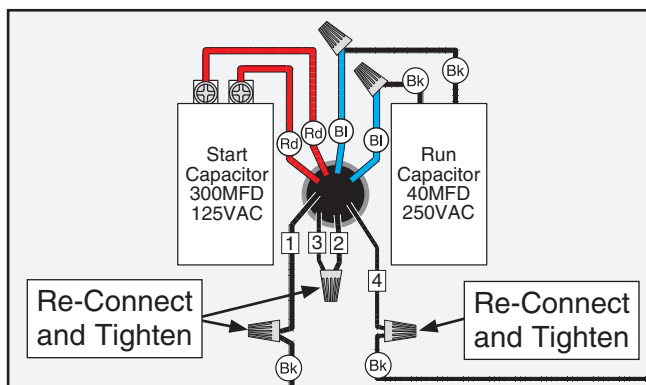

Figure 7. Motor wires repositioned for 220V.
5. Connect the motor wires, as shown in **Figure 7**, with wire nuts. Once snug, use electrical tape to secure each wire nut to the wires it connect. This will reduce the likelihood of the wire nut loosening during motor operation.